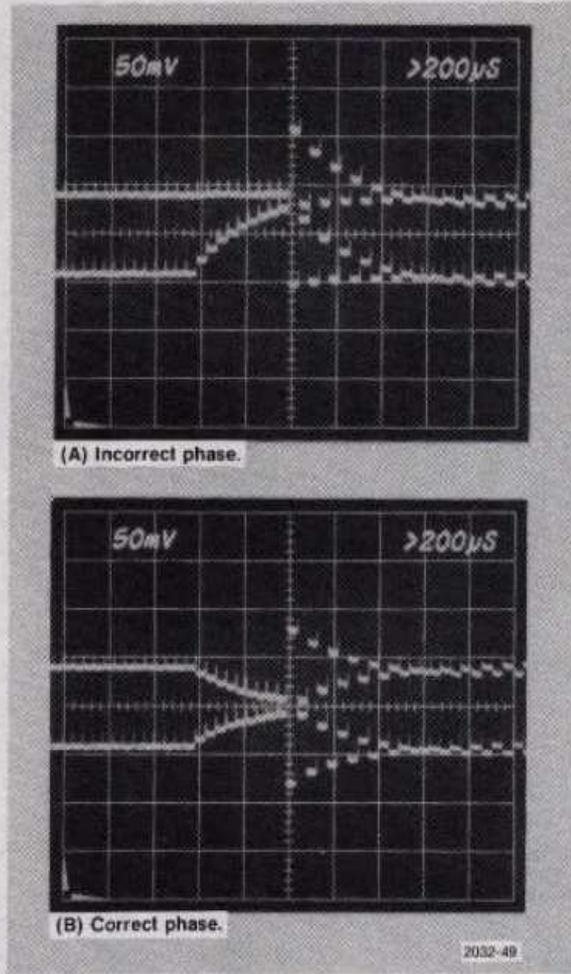

Fig. 5-38. 1421, 1422 — DC Balance adjustment.
- a. Connect the 10X probe from the test oscilloscope to TP1544. (See Fig. 5-38.) Turn the video generator Bruch Sequence off.
- b. ADJUST—R1561 (DC Bal) until the crossover point of two successive field sync pulses, time overlaid, is 0 V dc (see Fig. 5-38).